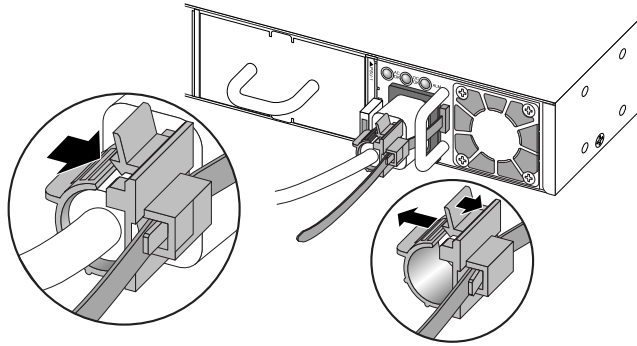

Figure 238: Attaching the Power Cord Retainer
- c Open the clip and slip it over the barrel of the connector (Figure 238: Attaching the Power Cord Retainer on page 271).